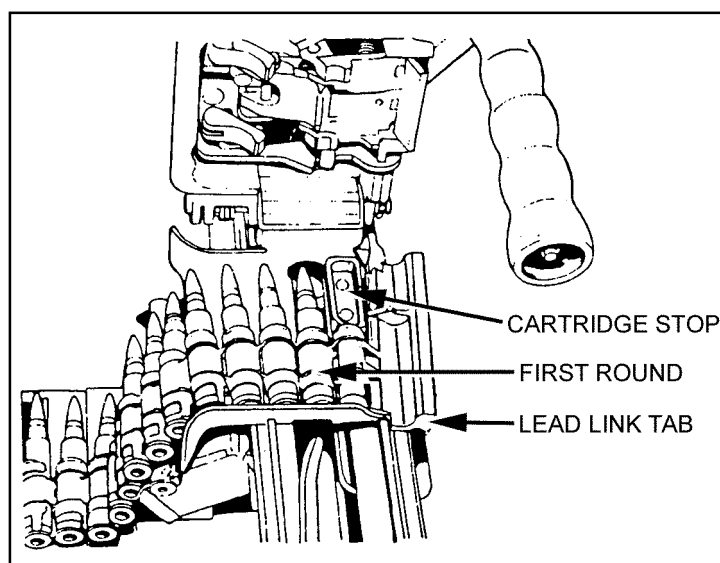

Figure 1-6. M855 cartridges in metallic belt.
(1) *Cartridge, 5.56-mm ball M855 (A059).* The M855 cartridge has a gilding, metal-jacketed, lead alloy core bullet with a steel penetrator. The primer and case are waterproof. This ammunition is linked by a disintegrating metallic split-linked belt so that the ammunition can feed from the ammunition box (Figure 1-6). In an emergency, the M855 round can also be fired from the M16A2, A3, or A4 when loaded in a 20- or 30-round magazine. It is identified by a green tip, has a projectile weight of 62 grains, and is 2.3 cm long. This is the NATO standard round. It is effective against personnel and light materials, not vehicles.